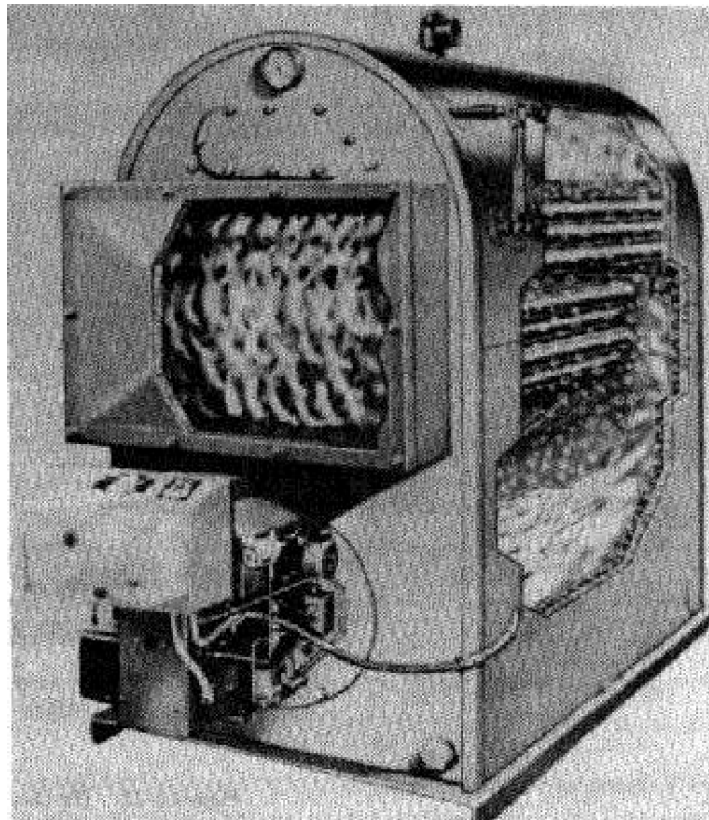

Figure 4-10. Firebox boiler.
a. *Firebox and locomotive boilers.* The firebox boiler (figure 4-10) and the locomotive type boiler are similar in most respects. However, the firebox boiler is usually used for stationary purposes only, and it has no steam dome. Firebox boilers require no setting except possibly an ash pit; as a result, they can be quickly installed and placed in service. In both types, the boiler shell extends beyond the rear tube sheet to form a smoke box or a reversing